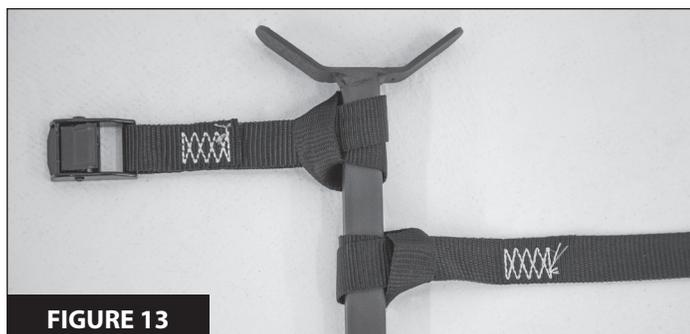

FIGURE 13
4. While two people hold the stand in place, the third person should connect the horizontal stabilizer bar to the tree. Adjust the length of the stabilizer bar as need so it contacts the tree and is level to the ground. Then secure it to the tree with the 6' cam strap (31) by forming a cinch knot with both ends of the strap and running the long end of the strap through the cam buckle. **SEE FIGURES 13 and 14.**